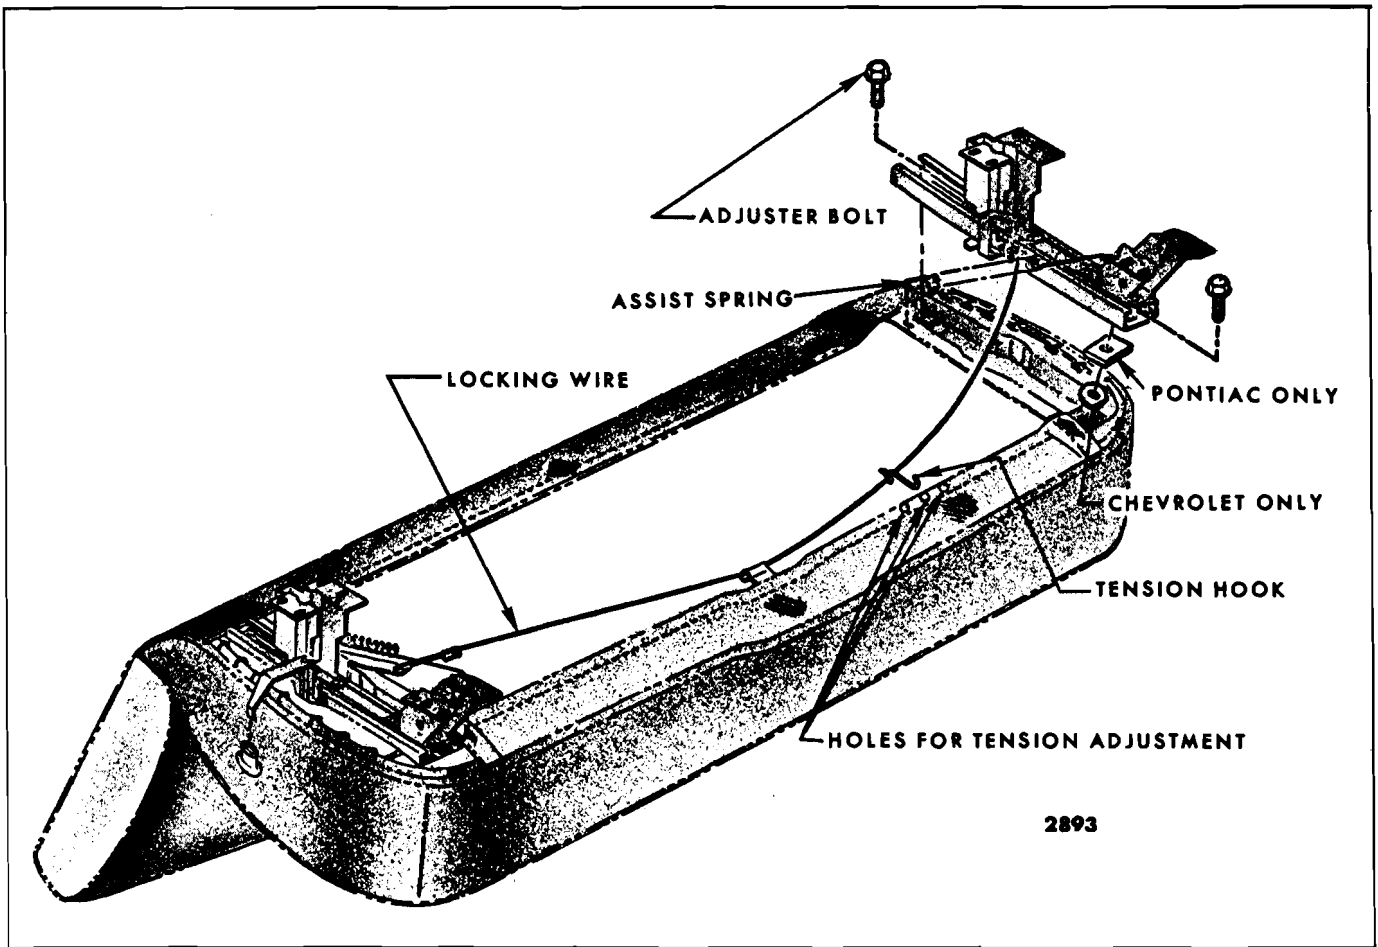

Fig. 15-5—Manual Seat Adjuster Installation - "B & C" Shown, "A, F, X & Z" Typical
2. Remove seat adjuster assist spring from adjuster to be removed (Fig. 15-5).
4. Remove adjuster-to-seat bottom frame front and rear attaching bolts (Fig. 15-5) and remove seat adjuster from seat.
adjuster is operated, disengage locking wire retainer from hole in seat bottom frame and engage retainer in one of adjacent holes to obtain proper tension in wire (Fig. 15-5).